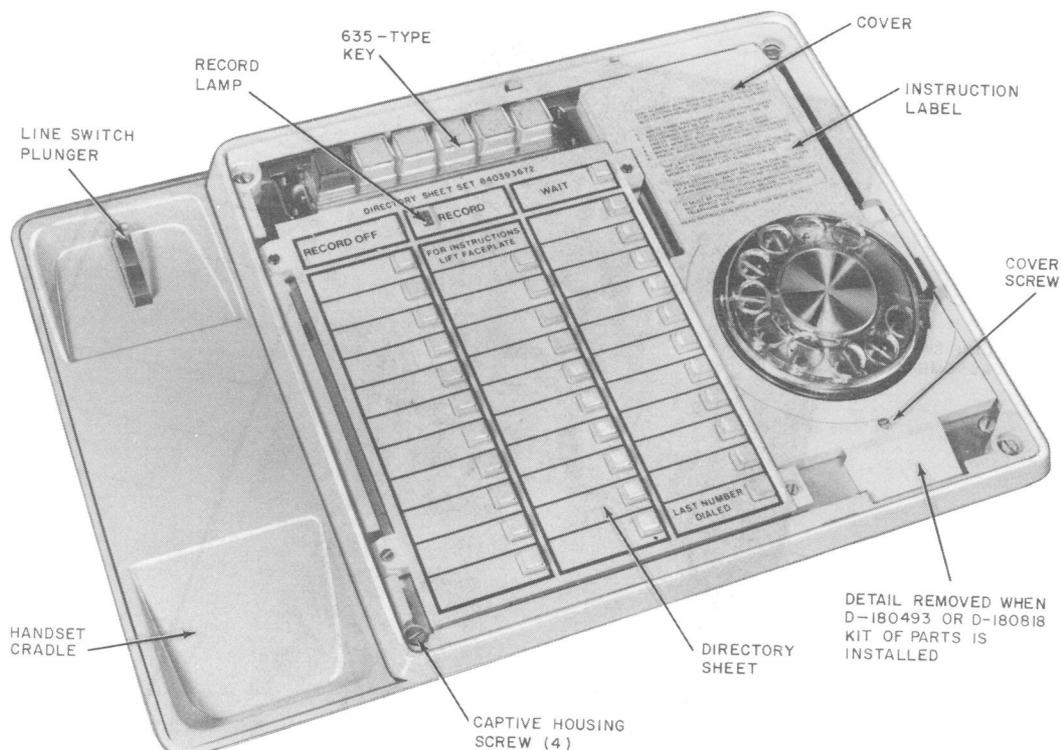

Fig. 2—872A1M Telephone Set—Faceplate and Handset Removed
2.09 Operating features (Fig. 2) are as follows.
- Line key (635BT5), 6-button key. Hold with five line pickup buttons which are convertible to nonlocking. An additional momentary contact (logic reset switch) is attached to the hold side of the key to reset the logic circuit anytime a key button is depressed.
3.05 The directory sheets (Fig. 2) fit over the buttons of the memory and are held in place by the faceplate. Additional sheets are available in directory sheet set, 840393672.
- (5) Make connections per Table C, E, or F.
- (6) Break off the detail at the bottom of the cover (Fig. 2) and trim edge as required.
- (7) Verify correct operation of option.
- (8) Reassemble set.